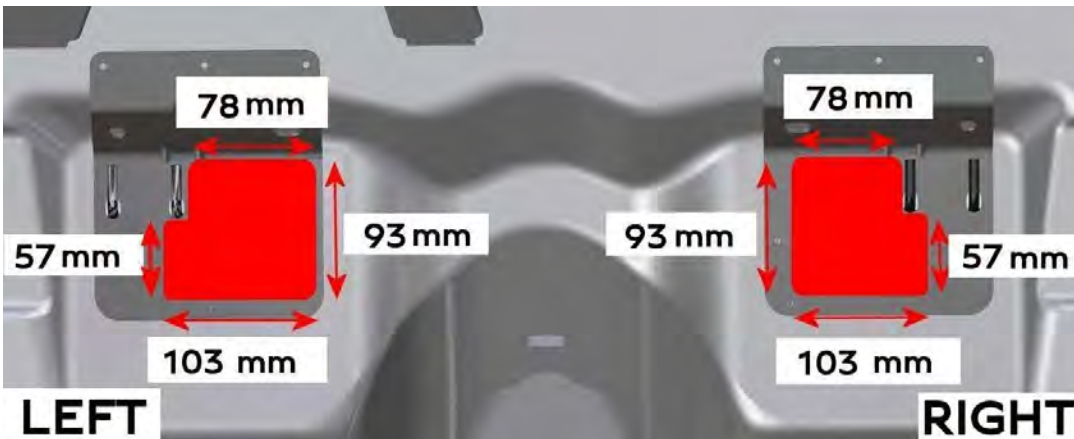

Figure 20
6) Referring to Figure 20 - Scrape/remove the underseal from the areas shown on the right and left hand side, once removed use fine grade sandpaper to remove any remaining underseal
It is imperative that the areas shown in Figure 20 are completely free of underseal as per the dimensions provided, should the operative **NOT** remove **ALL** underseal the fitting location of the plates in relation to the floor panel may be compromised